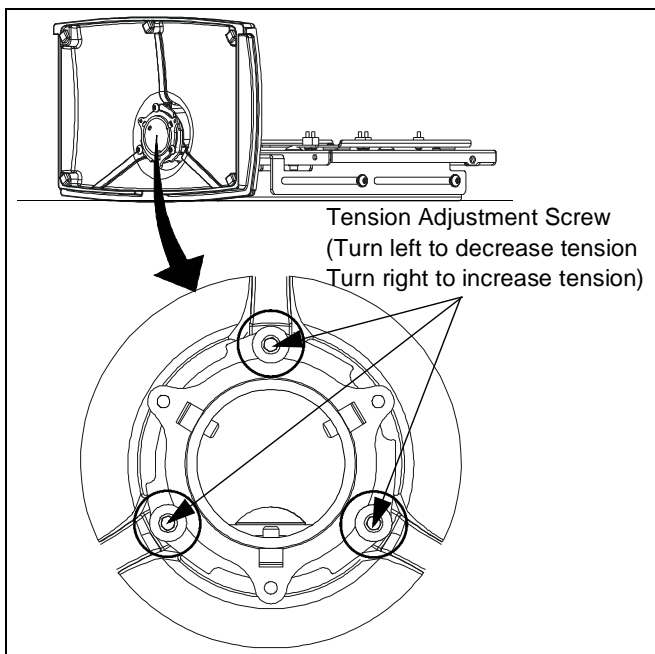

Figure 11
3. Lay mount on back. (See Figure 11)
4. Locate three tension adjustment screws. (See Figure 11)